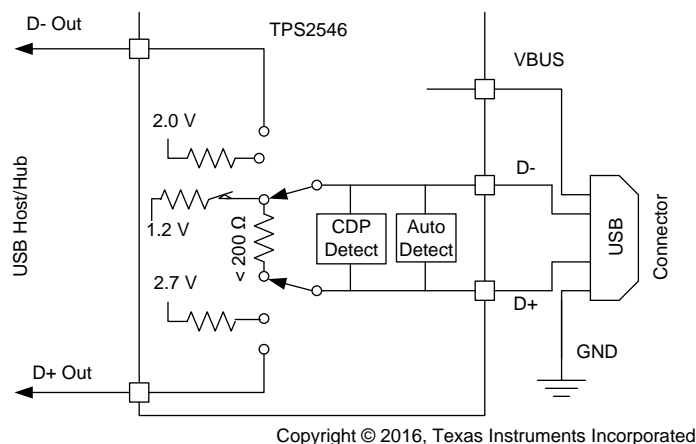

Figure 31. DCP 1.2-V Charging Scheme
1.2-V charging scheme is used by some handheld devices to enable fast charging at 2 A. TPS2546 supports this scheme in the DCP-Auto mode before the device enters BC1.2 shorted mode. To simulate this charging scheme D+/D– lines are shorted and pulled-up to 1.2 V for fixed duration then device moves to DCP shorted mode as defined in BC1.2 specification. This is shown in Figure 31